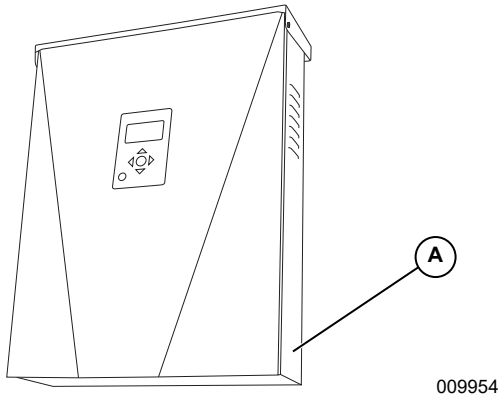

Figure 2-1. Serial Number Location
Refer to **Figure 2-1** to locate unit serial number (A). Record the information from this tag in **Table 1: Generac PWRcell Inverter Important Information** on the inside front cover of this manual. When requesting assistance you may be asked to provide this information.